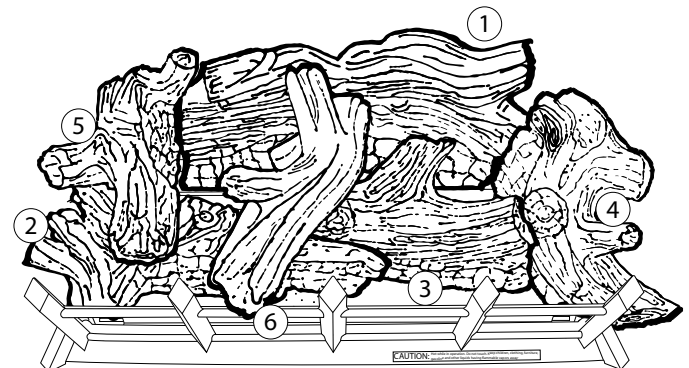

Figure 48
6. Place the top center log (#6) to the right of the pilot orifice allowing the log to rest on top of the front right log (#3) and the front left log (#2). (See Figure 48.)
The wall switch wire connection is located off the 2 ft. wire harness from the control box to the command center. *Figure 48.* The connection is labeled "Wall Switch". Unplug the male and female connectors and connect the two (2) low voltage wires not provided. Run wire to desired location on wall. Up to 50 ft. of 18 ga. wire may be used if necessary. Attach wires to wall switch. Mount the wall switch in to junction box and screw on cover.